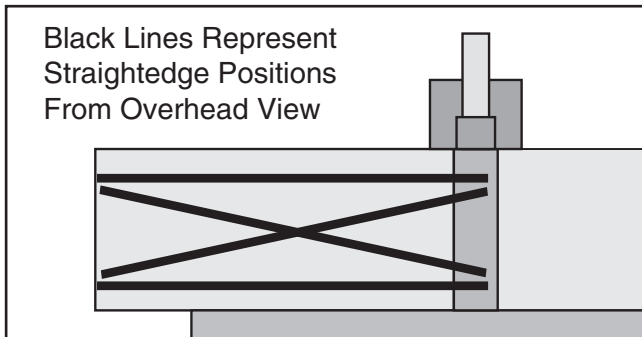

Figure 46. Straightedge positions for verifying if outfeed table is parallel with cutterhead.
6. Place straightedge in positions shown in **Figure 46**. In each position, straightedge should touch cutterhead and sit flat on outfeed table.